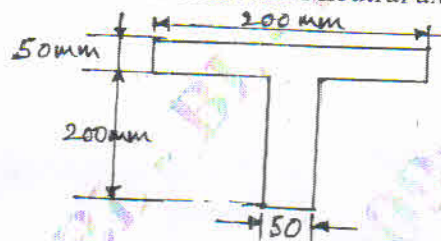

Fig.Q8(b)
- b. A 'T' shaped cross-section of a beam shown in Fig.Q8(b) is subjected to a vertical shear force of 100 kN. Inspect the shear stress at the neutral axis junction and flange. MI about the horizontal neutral axis is 0.0001134 m^4 .